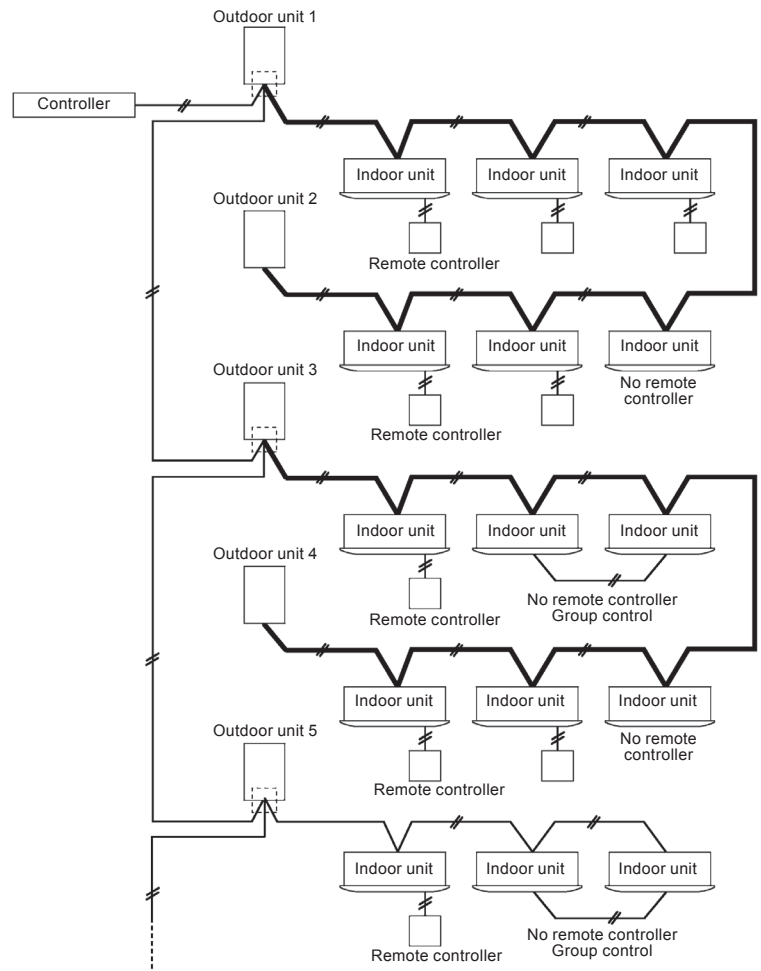

Figure 6
- If there will be 17 or more branches, split the system into two and then connect the wire. (Figure 6)
❷ In ❶, if there are more than 17 branches, reduce the number of branch locations. (Figure 6)